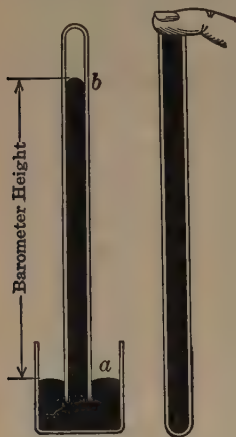

FIG. 79.—Principle of mercurial barometer.
**Experimental barometer.** Fill a glass tube, about 35 inches long and closed at one end, nearly full of mercury. Cover the open end of the tube with the finger. Invert the tube, and allow the large bubble of air to pass through the mercury to the opposite end of the tube. Slowly invert the tube again and let the air come back, gathering with it all the small air bubbles that were enclosed with the mercury. Fill the tube full of mercury. Close the open end with the finger, being careful that no air is left under the finger, invert the tube, place the end under the surface of mercury in a small vessel, and remove the finger. When the tube is vertical, as in Fig. 79, the mercury will fall until its downward pressure is just balanced by the pressure of a column of air on the surface of the mercury in the vessel. When all the air is removed from the mercury in a barometer tube by heating to a high temperature, very accurate measurements of air pressure can be made. There is always a vacuum in the tube at the top of the mercury column. A scale running from 28 inches to 32 inches above the mercury level in